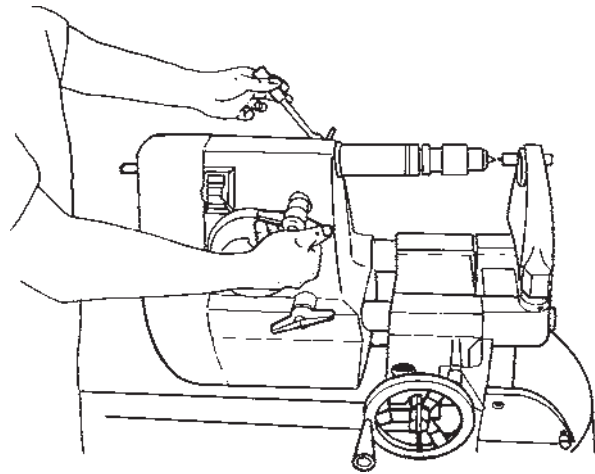

Figure B-116
88. Loosen the quill lock. Extend the quill (seen in Figure B-116), so the drill chuck almost touches the cup center point and the center point could fit into the chuck jaws. Secure the quill lock.